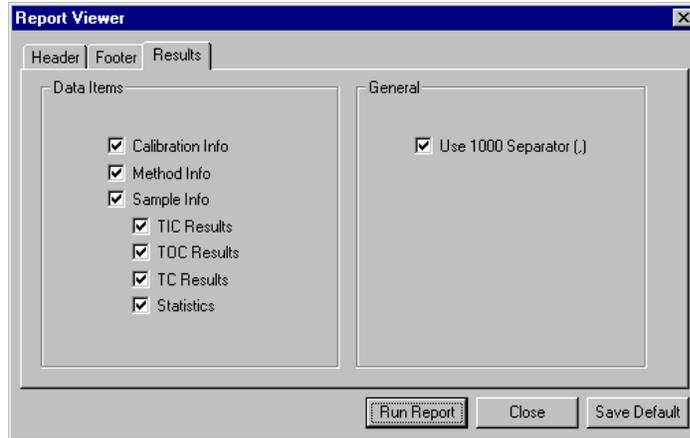

Figure 5.8. Report Viewer Results tabbed page
11. Click the **Results** tab to customize what results will be displayed (Figure 5.8).